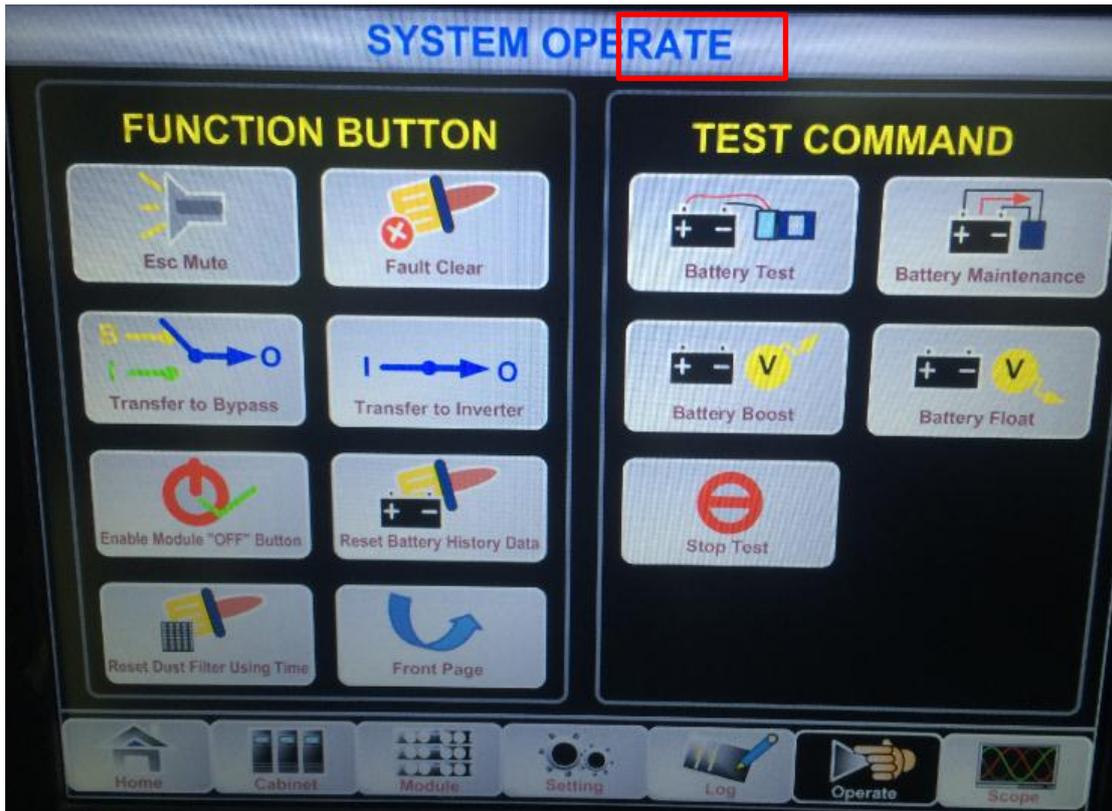

Figure 11 Manual bypass function
14. Click any cabinet function “Transfer to Bypass” on the LCD, as is shown in figure 11, all cabinets should go to bypass mode synchronously.